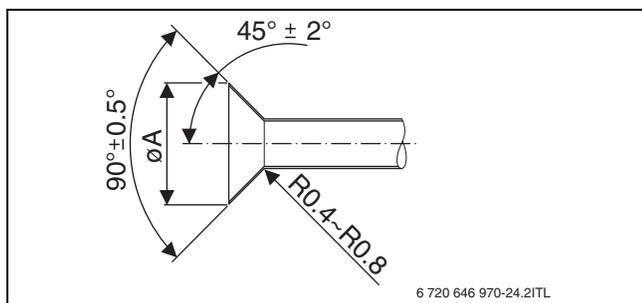

Fig. 30 Flaring refrigerant pipes
- ▶ Flare the pipes for liquid and gaseous refrigerant (→ Fig. 30 and table 8).